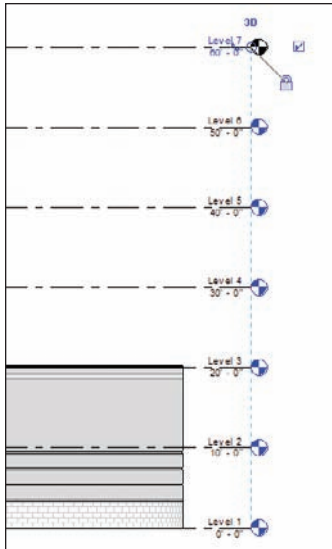

FIGURE 3.8 Levels 1 through 7 are now complete.
8. With the Level command still running, create Levels 4, 5, 6, and 7. Your elevation should now look like Figure 3.8. Also, look at your Project Browser. It should not have any additional levels. You may also notice that you have new levels under the Ceiling plans category as well.